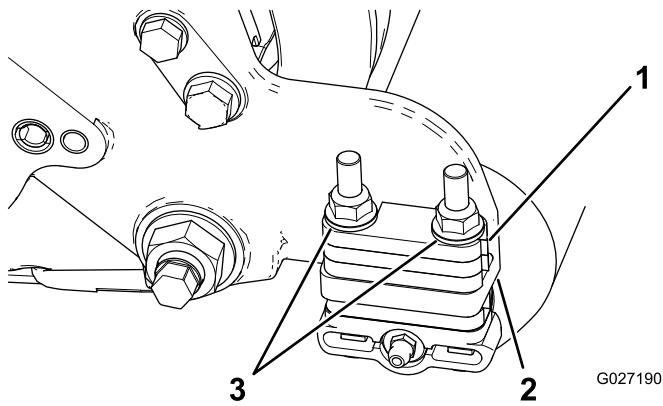

Figure 5
9. Remove the 2 flange locknuts securing each roller bracket to the side plates, as well as any 6 mm (1/4 inch) spacers positioned on the top side of the side-plate mounting flange (Figure 5).